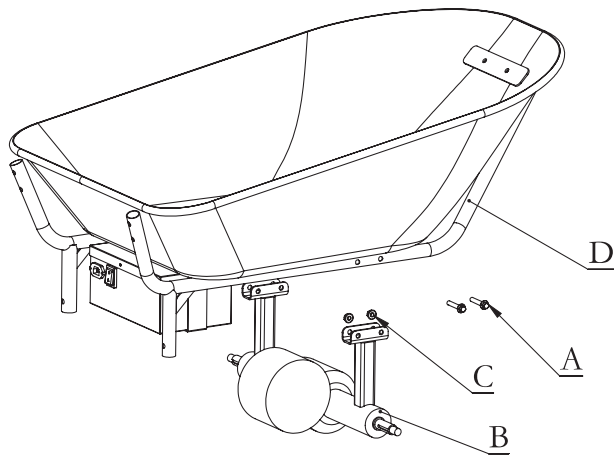

Figure 1
Fix drive axle(B) on bucket bracket(D) with four bolts M8x45(A) and four nuts M8(C). (See Figure 1)